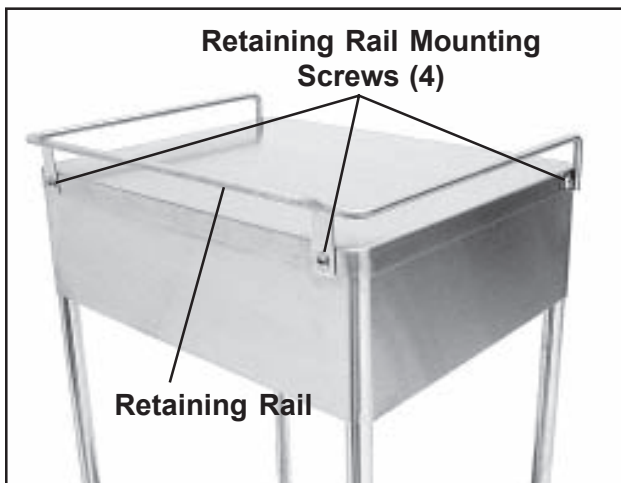

Figure 6. Retaining Rail and Mounting Screws
2. With a Phillips screwdriver and 7/16 in. wrench, remove the four retaining rail screws/nuts (Figures 6, 7, & 8) and remove the rail from the table.